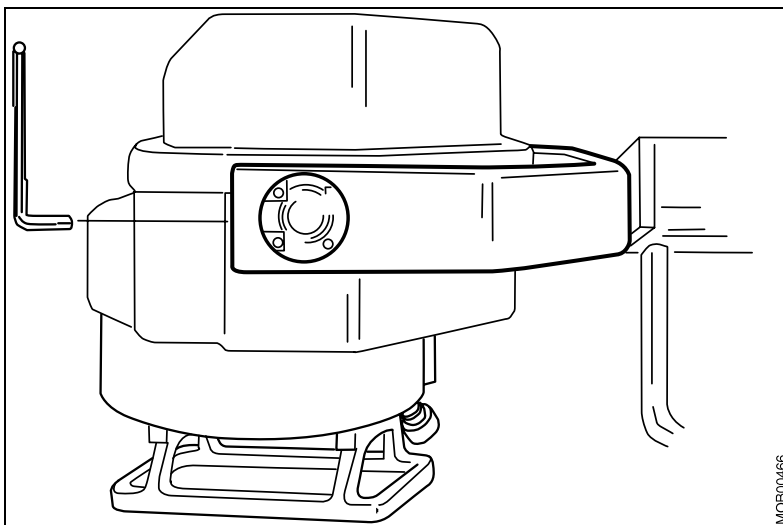

Fig. 50: Adjust\_tube\_rot
- Set the friction on both sides of the fork to be tighter or looser. (Fig. 50 / p. 58)